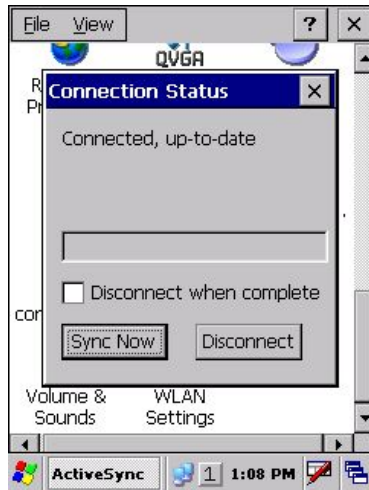

Figure 5.26
8. On the IT-600, navigate to **Start** → **Programs** → **Communication** → **LAN ActiveSync** to initiate the connection. Ensure that **Network Connection** is the name of the connection method and that **Connect to** line is the name of your PC. Click **Connect ...** button and then the connection should be established showing the screen in Figure 5.26.